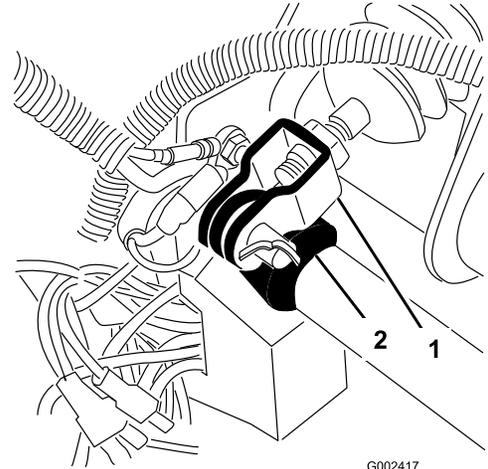

Figure 55
1. Remove the cotter pin and clevis pin securing the master cylinder yoke to the brake pedal pivot (Figure 55).
3. Loosen the jam nuts securing the yoke to the master cylinder shaft (Figure 55).